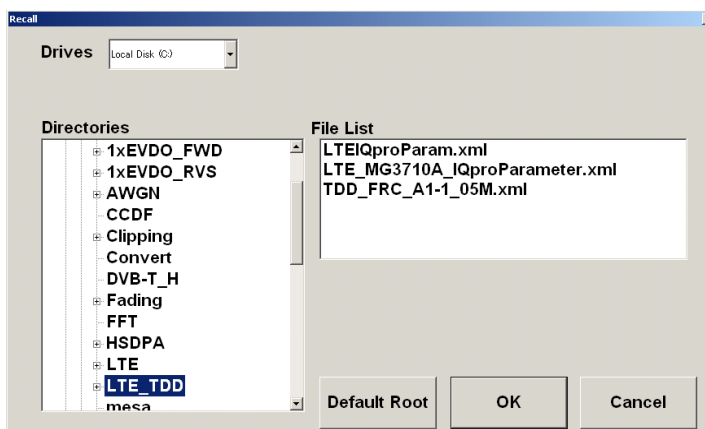

Figure 3.5-2 User file reading screen (MG3710A)
2. Select **CCDF** from the **Simulation** menu or click the  tool button. The confirmation message shown in Figure 3.5-2 below appears: